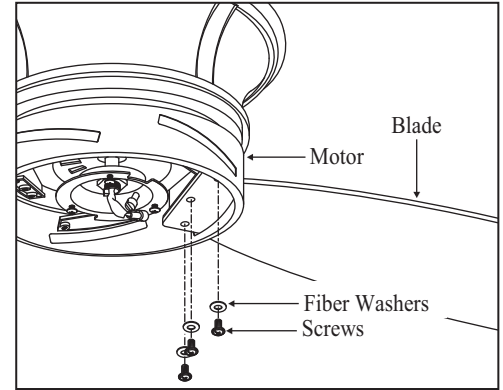

Figure 14
2. Align the holes from the blade to the holes from the motor and secure in place with screws and fiber washers provided. (Fig. 14)